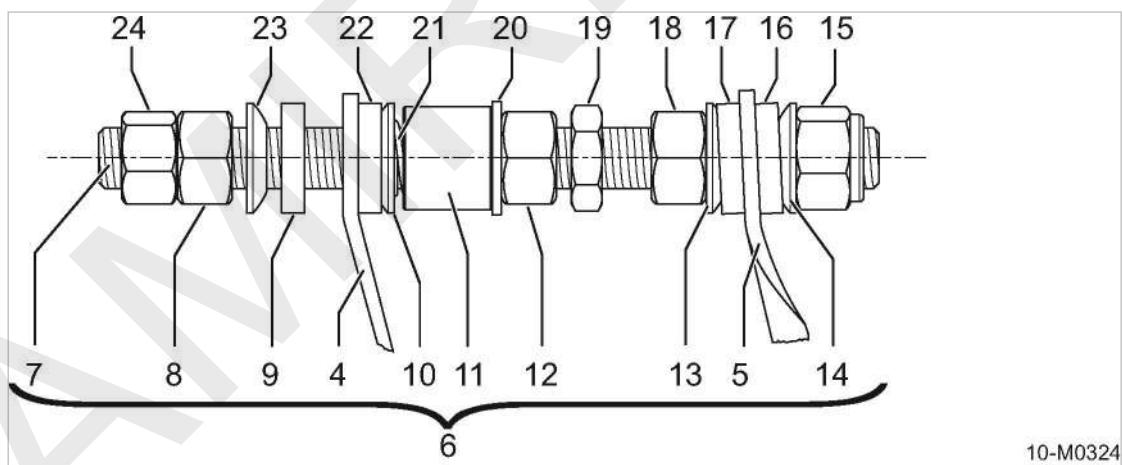

Fig. 75 Generator belt tensioner
See chapter 10.7.8.3; Figure 75.
(see figure 75 for location).
1. Remove the tensioning device (see Fig. 75).
3. Mount the tensioning device (see Fig. 75).